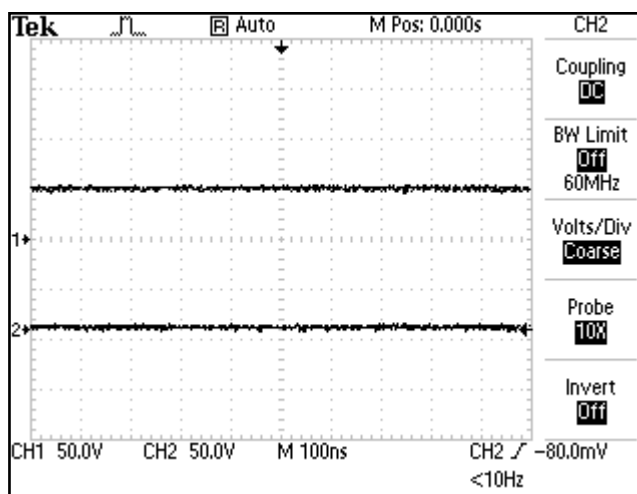

FIGURE 4.11
J. DC (Direct Current)- Figure 4.11